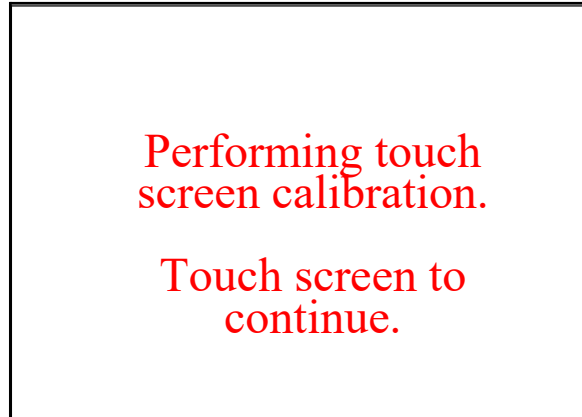

Figure 5-30 Display Calibration Start Screen
- The screen in Figure 5-30 appears. Touch anywhere on the screen to continue calibration.